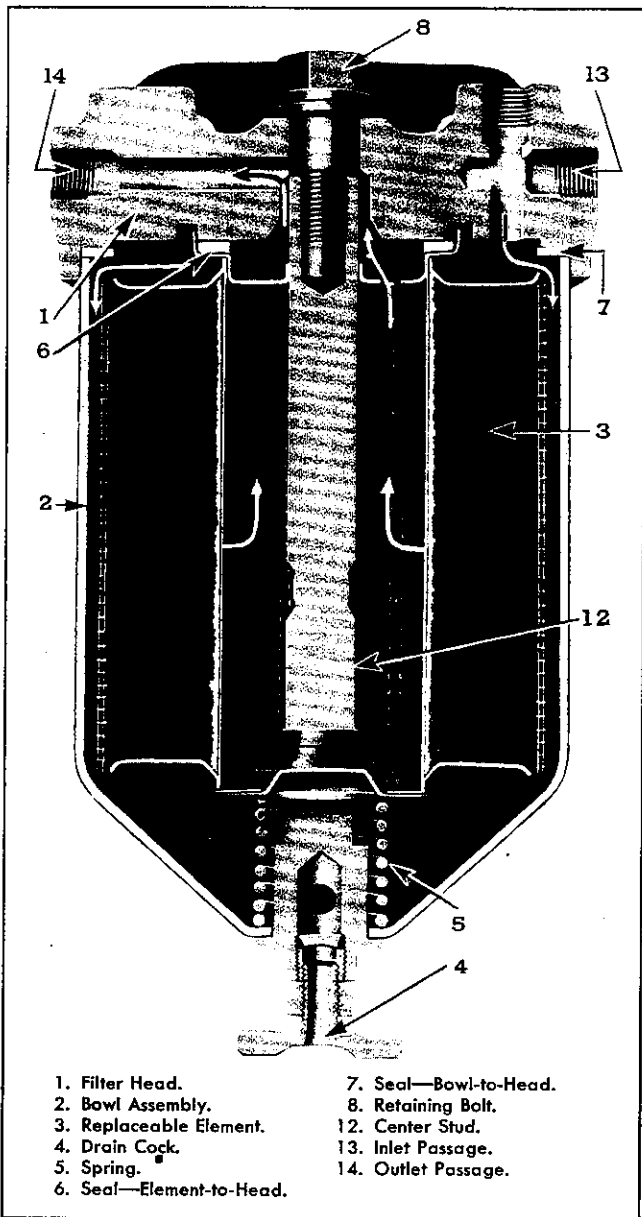

Fig. 47—Secondary Fuel Oil Filter Assembly.
**Description**—The secondary filter assembly shown in Fig. 47 consists of a combination head and mounting bracket (1), a replaceable filter element (3), a steel bowl or element housing (2), a spring (5), and suitable seals, plugs, and connections.
When it becomes necessary to renew the element in the secondary filter, refer to Fig. 47 showing relative location of filter parts and proceed as follows: